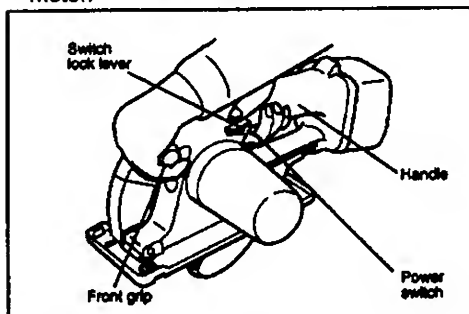

Fig. 4
Hold the metal cutter with both hands, as shown in Fig. 4. Do not attempt to remove cut material when blade is moving.
- Always hold the handle with one hand and the front grip with the other. (See Fig. 4, page 12) Maintain a firm grip and depress the switch fully.